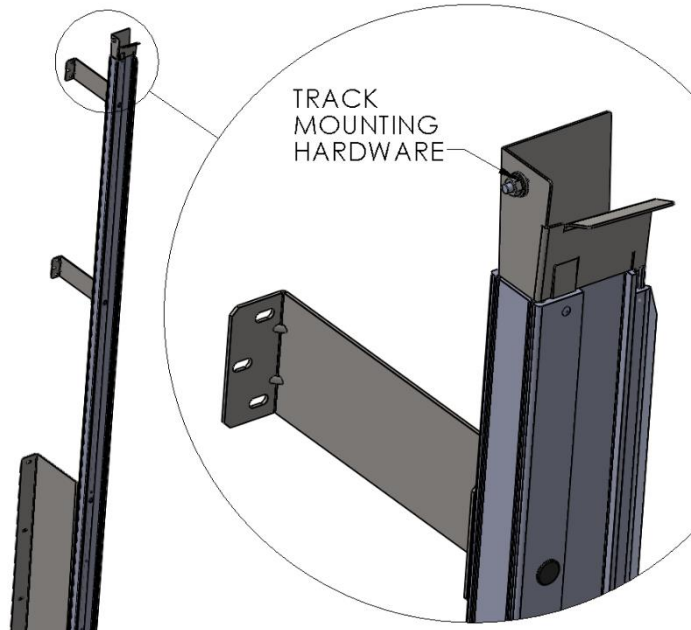

Figure 6 TRACK MOUNTING HARDWARE
1. Starting with either left or right side, loosely “hang” the track assembly by its Track Mounting Hardware. Setup and generally align the track under its respective Roll Assembly Mount Bracket. (Figure 6 TRACK MOUNTING HARDWARE)